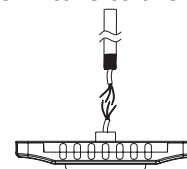

Figure 4
1. Connect the wiring to the local power supply in the 3/4" NPT Stem (Figure 4).